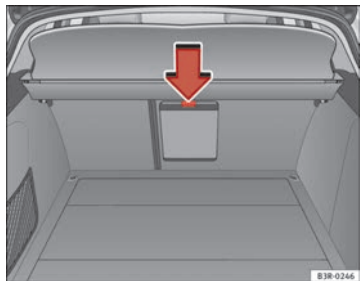

Fig. 127 Detailed view of the rear of the rear backrest: Ski bag cover
- Press the release catch for the ski bag cover (arrow) and fold the cover downwards ⇒ Fig. 127.